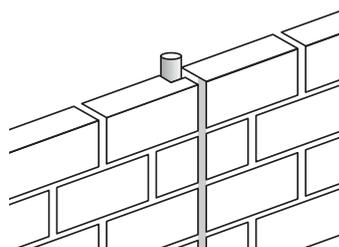

Fig. 8
- Chases, recesses or openings (See Figure 8)